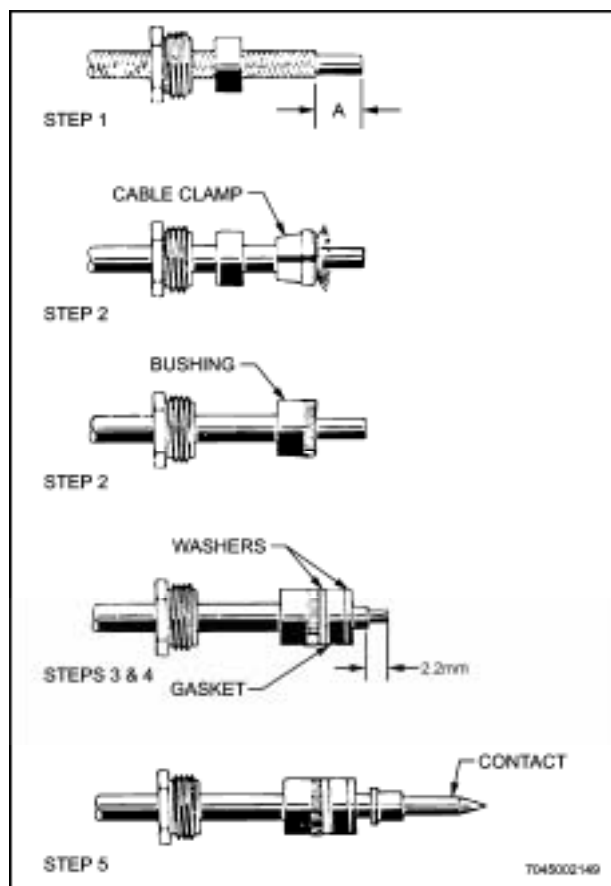

Figure 12-43 Attaching Liquidometer S62 and S63 Series Connectors to Coaxial Cable
- c. Clamp the braid between the two eyelets with special slotted pliers, as shown in Figure 12-43. Trim off excess braid.
37. For assembly of Liquidometer S62 and S63 series connectors to RG-58/U coaxial cable (see Figure 12-43), use the following procedure: